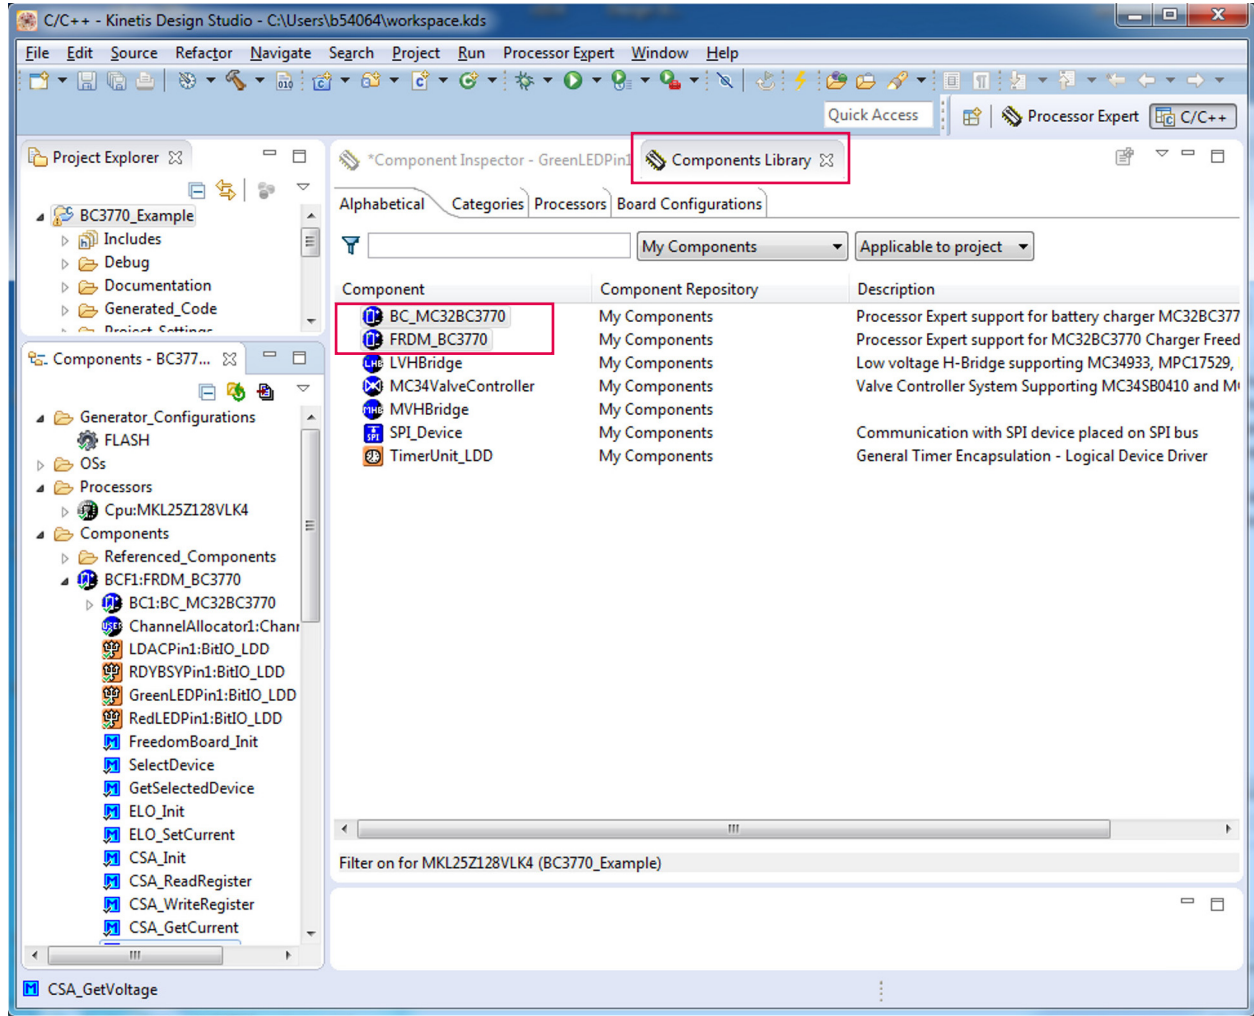

Figure 10. Component location after KDS importing
4. If the import is successful, the BC3770 components are in Components Library -> SW -> User Component (see Figures 10). The components are ready to use.